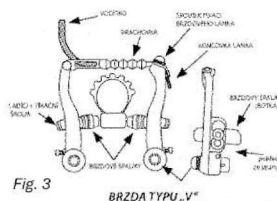

Fig. 3
- **V-brake** – when the brake lever is pressed, the brake pads must make full contact with the rim. (*Fig. 3 – V-brake*)